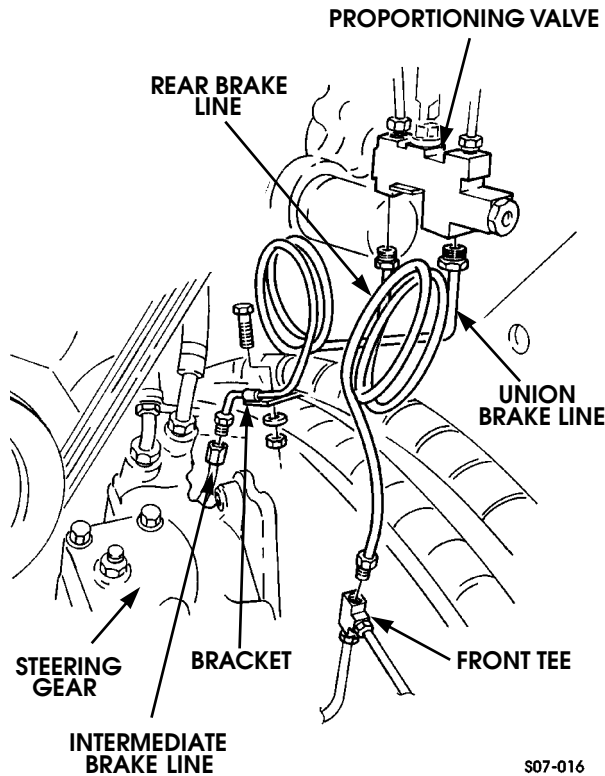

Figure 7-18: Proportioning Valve
1. Disconnect union brake line from proportioning valve (Figure 7-18).
1. Connect union brake line to intermediate brake line (Figure 7-18).
1. Disconnect rear brake line from proportioning valve (Figure 7-18).
1. Connect rear brake line to front tee (Figure 7-18).